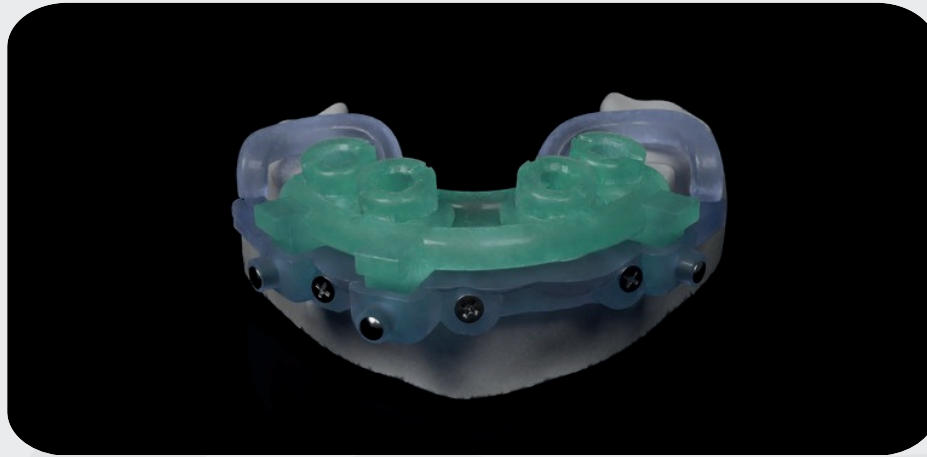

Fig. 14
Step 6: Insert the osteotomy guide into the bone foundation guide (Fig. 14) and use the metal pins to securely hold them together, then perform your osteotomy and place your implants according to the drilling instruction sheet (sent by ITXPROS).